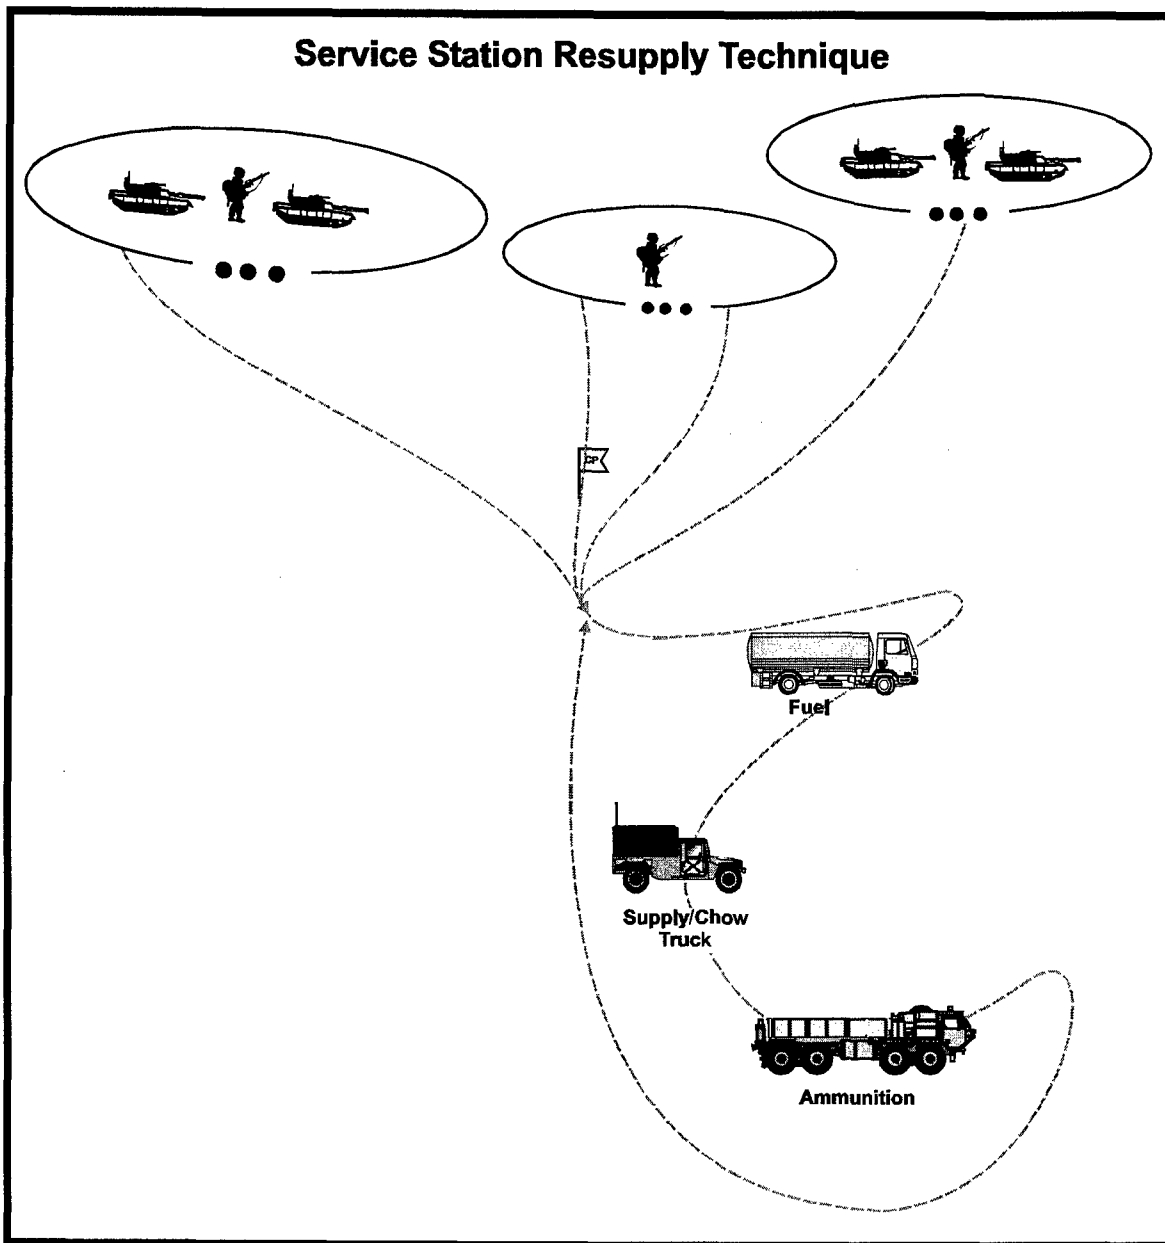

Figure 8-2
□ ***“Out of Position,”*** also called ***“service station”*** technique requires the tanks and the soldiers to leave their current position to receive the supplies. This technique allows the resupply operation to take place away from the company’s area of operations (AO) or positions and helps prevent the supply operation from revealing their exact location to the enemy. However, company vehicles or soldiers will be used to transport the supplies to their final destination (see Figure 8-2).